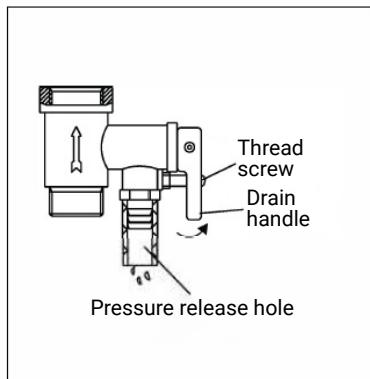

Fig. 6
- Unscrew the thread screw on the multifunction safety valve, and lift the drain handle upwards (See Fig. 6) to drain the water from the inner tank.